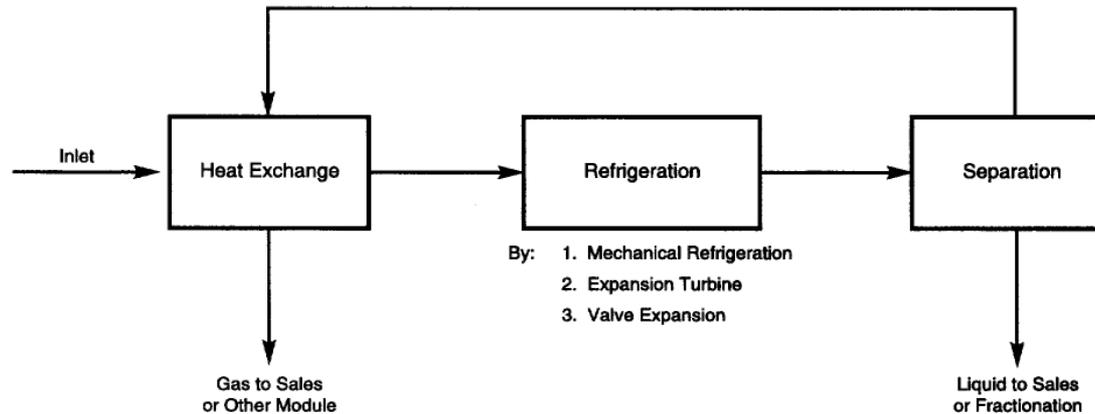

Figure 1.2 Refrigeration Type of Liquids Recovery Module
- For example, the NGL extraction module could be subdivided as shown in Figure 1.2. This figure is for the very simplest form of refrigeration system consisting of a well stream exchange, refrigeration source, and separation of liquid from vapor.